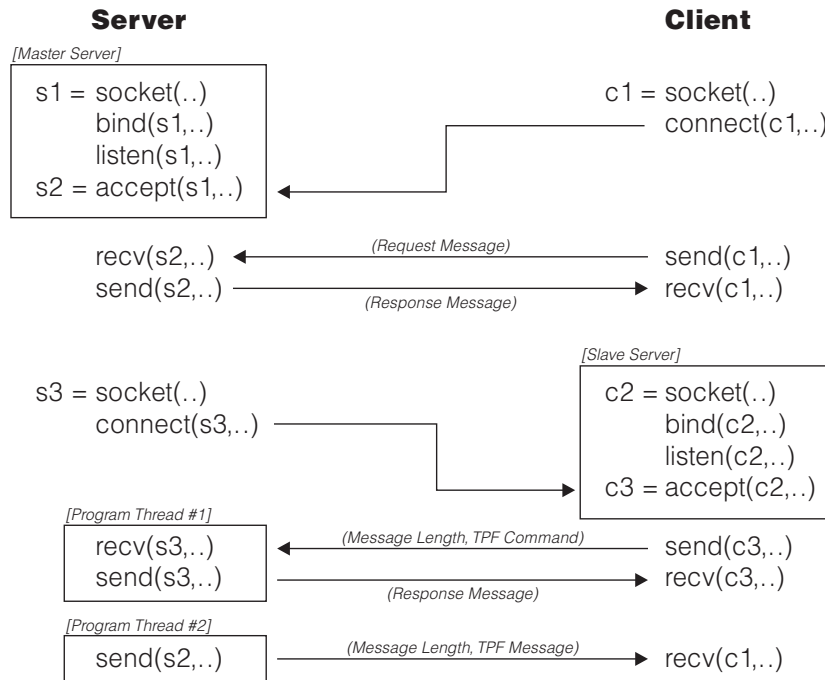

Figure 2-3. TPF Operations Server Connection and TPF Message Flows
Figure 2-3 on page 2-12 shows that the console session connects to the TPF host system.
- **eyn_sspnum**: The slave server port number that is used by the TPF Operations Server to establish the second socket connection as shown in Figure 2-3.